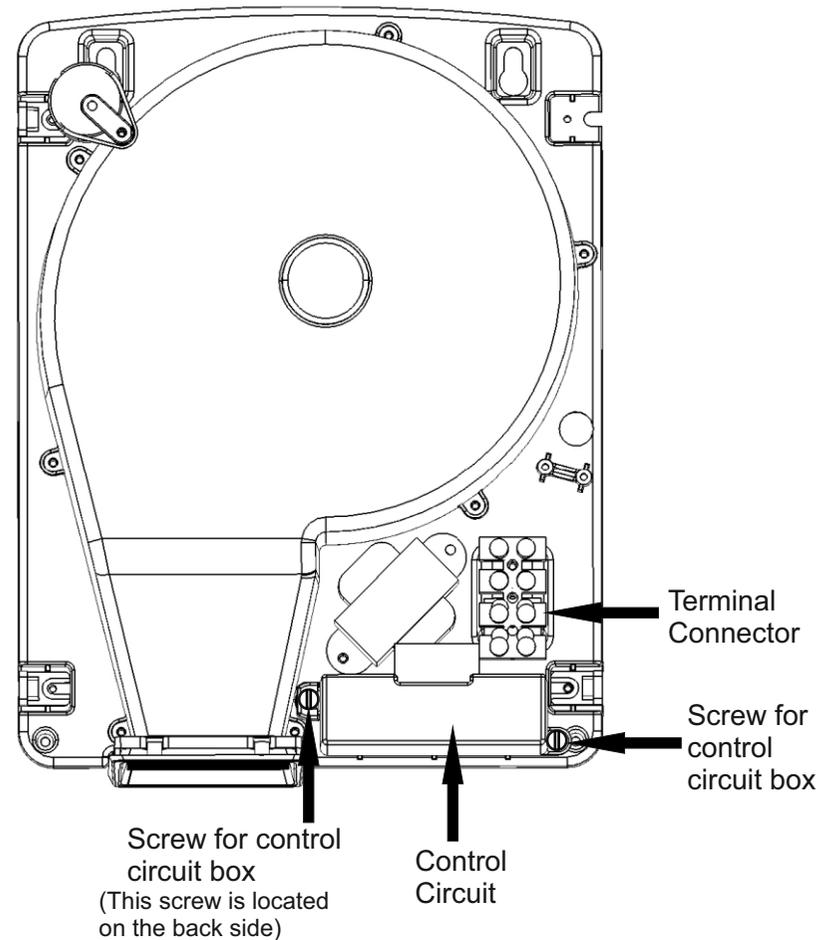

Fig. 7
- 3) Remove the screws as indicated in Fig. 7 that fit the PCB stand to the back plate of the hand dryer.